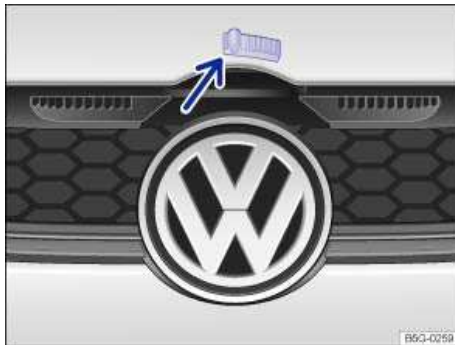

Fig. 153 Above the radiator grille: Outside engine hood release.
- Push the outside hood release lever ⇒ fig. 153 (arrow) and lift the hood all the way up. A gas-filled strut will hold the hood up.